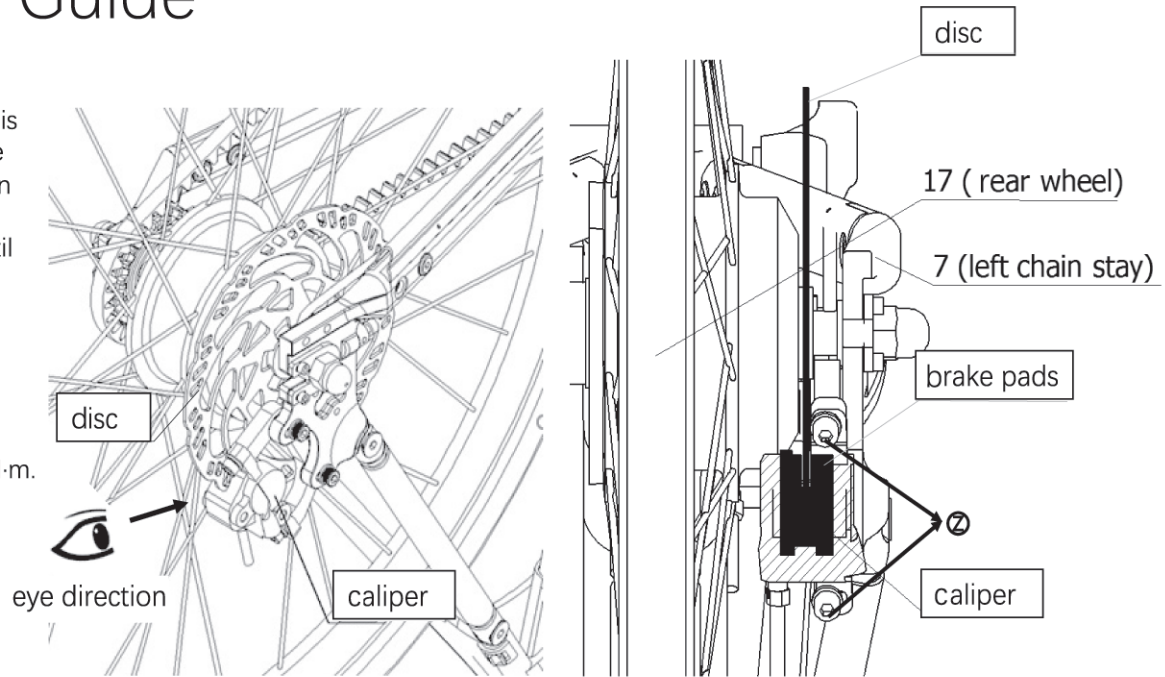

Figure 41.
e. After fixing the caliper, observe whether the disc is in the middle of the brake pads. If not, slightly loosen the screw and adjust the position of the caliper until the disc is in the middle, and then tighten the screws  $\odot$ . As shown in Figure 41.